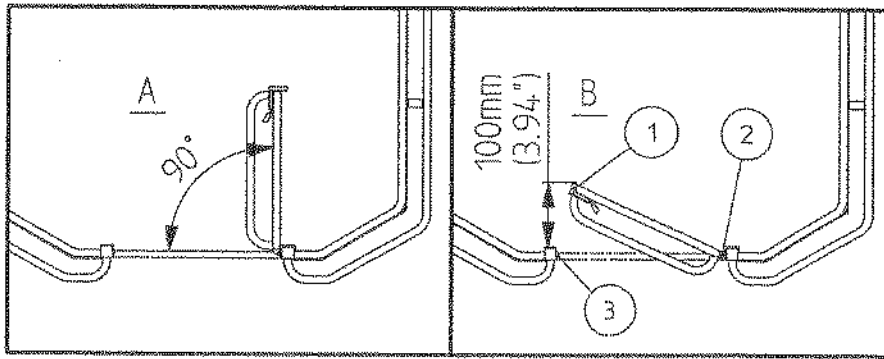

Figure 24-1
1. Check the operation of the gate. The gate has to close and lock when it is released from position A and position B (figure 24-1).